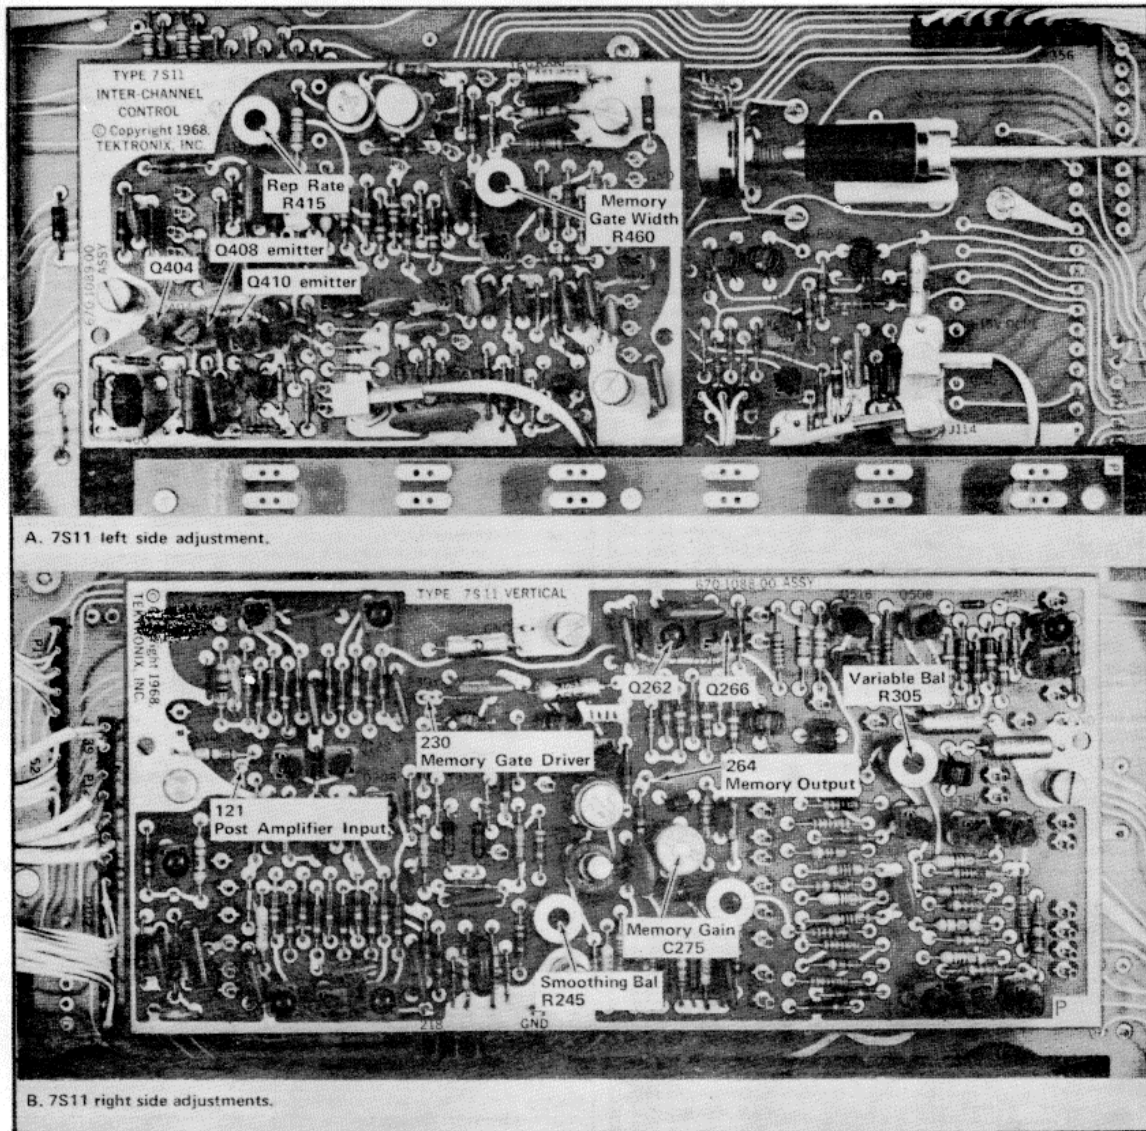

Fig. 6-7. Test points and adjustments, steps 4 through 13.
d. Adjust the Memory Gate Width control, R460, for maximum vertical separation between traces. See Fig. 6-7 for control location.
e. Connect the 7A13 10X probe to test point 230, the Memory Gate Driver, see Fig 6-7.
g. Adjust the Memory Gate Width control R460, Fig. 6-7, for a Memory Gate between 160 ns and 180 ns wide at the 50% amplitude level.
h. Connect the 7A13 10X probe to test point 121, the Post Amplifier Input, see Fig 6-7, and use a short ground lead (Tektronix Part No 175-0249-00) to minimize ringing. Set the 7A13 Volts/Div switch to 10 mV.
j. Remove 040, see Fig. 6-7, and obtain a stable, double-triggered display in such a manner that there are two, most defined, waveform traces, one positive and one negative, as shown in Fig. 6-8C. If not, change the real-time oscillator frequency by adjusting R415.
m. Adjust the Memory Gain control C275, see Fig. 6-7, for 5 divisions separation (2.5 divisions if not a Type S-1), similar to Fig. 6-8A.
a. Remove Q262 and Q266, then short test point 264 to ground with a patch cord. See Fig. 6-7.
c. Adjust Variable Balance control R305 for minimum trace shift as the VARIABLE control is rotated throughout its range. See Fig. 6-7 for location of control.
- b. Connect the 7A13 10X probe to test point 230, see Fig. 6-7.
- d. Adjust Rep Rate control R415 for a period between 19 μ s and 23 μ s. See Fig. 6-7 for location. See NOTE in Real Time Sampling on page 2-7 regarding this adjustment for Type S-5 Sampling Head use.